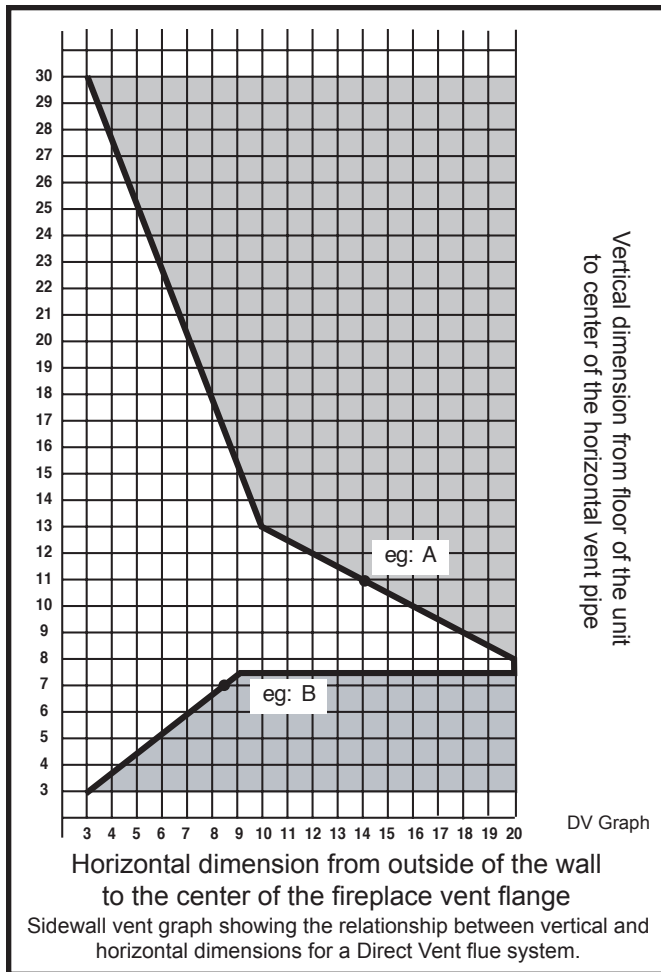

Fig. 16 Sidewall vent graph.
- The vent graph (Fig. 16), showing relationship between vertical and horizontal side wall venting, will help determine allowable dimensions.
**Example:** According to the vent graph (Fig. 16), the maximum horizontal vent length in a system with a 7½" (191mm) vertical rise is 20 ft. (6.1m), but if a 90° is required in the horizontal vent, it must be reduced to 17 ft. (5.2m).